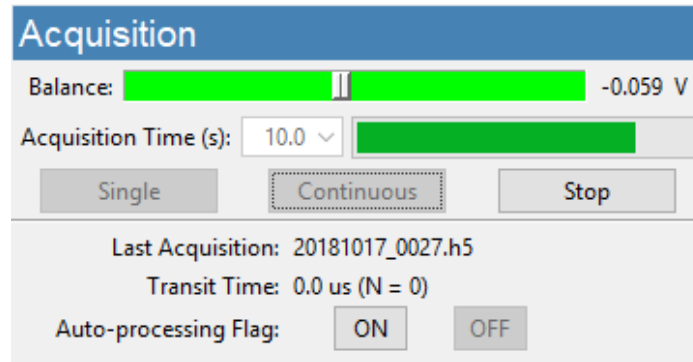

Figure 10. Acquisition frame.
- After priming of the cartridge is complete, continuous data acquisition will begin automatically using bias values that are optimized for the cartridge type, Figure 10.